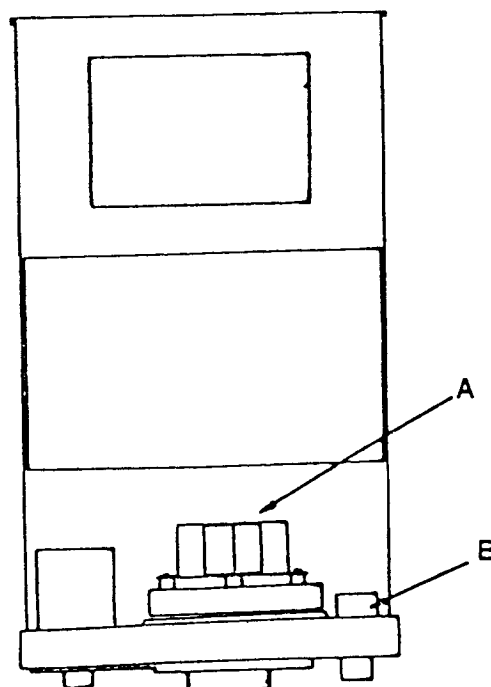

Figure 14
- (2) Locate PB-1848 and PB-1849, which can be seen at "A" in Figure 14.